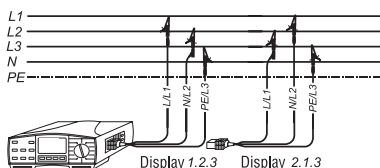

Figure 78: Rotary Field Measurement
- ▶ Connect the test leads to UUT in accordance with Figure 78. Ensure that the connection of the three test leads L1, L2, and L3 is in correct order. If desired, this connection information can directly be retrieved on the measurement instrument using the key 'HELP'.